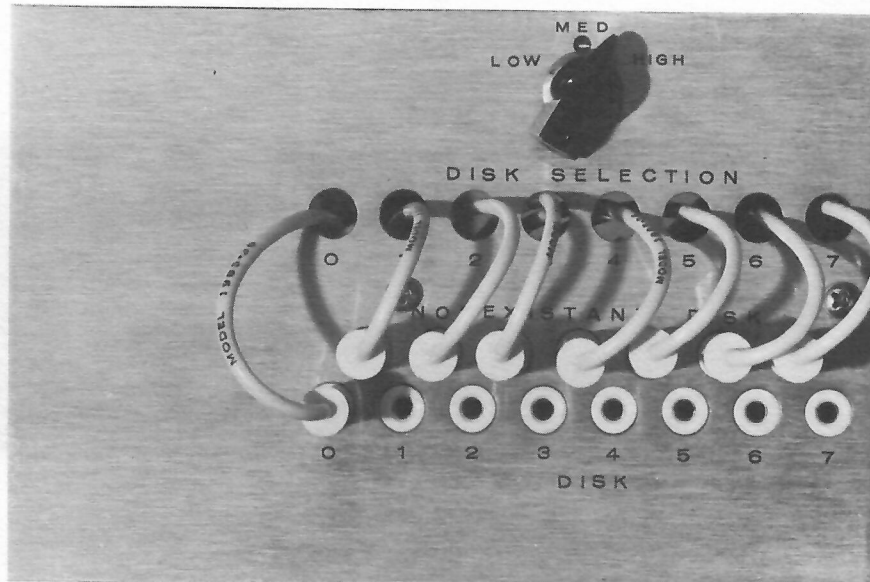

Figure 6-7 RF15 Control Panel
6.2.1.2 RF15 Control Panel - The RF15 control panel is illustrated in Figure 6-7 and described in Table 6-5.
Select transfer rates by setting the LOW-MED-HIGH switch on the RF15 control panel (Figure 6-7) to the desired transfer rate.
Select disk numbers at the RF15 control panel (Figure 6-7) as follows: